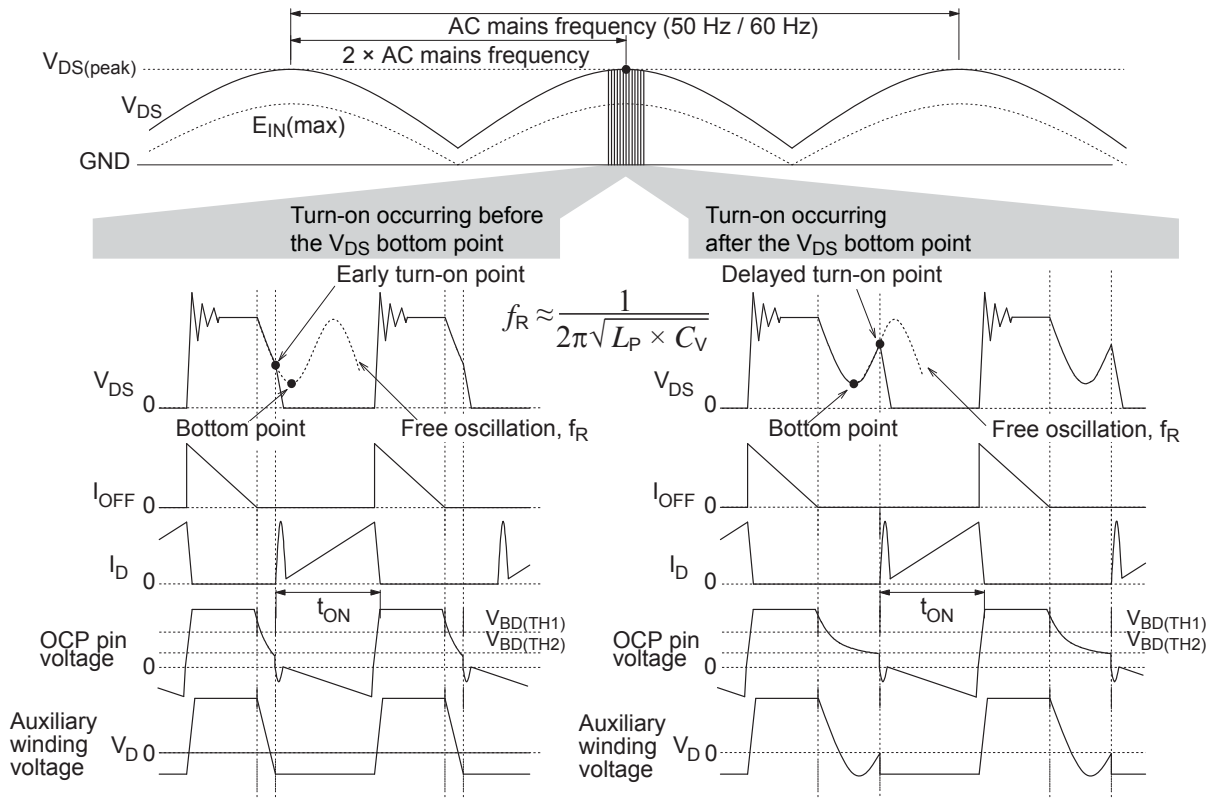

Figure 17. Effects of failure to turn on precisely at the  $V_{DS}$  bottom point: (left) turn-on before a bottom point, and (right) turn-on after a bottom point
- If the turn-on point precedes the bottom of the  $V_{DS}$  signal (see figure 17, left panel), it causes higher switching losses. In that situation, after confirming the initial turn-on point, delay the turn-on point by increasing the C7 value gradually, so that the turn-on will match the bottom point of  $V_{DS}$ .
- In the converse situation, if the turn-on point lags behind the  $V_{DS}$  bottom point (see figure 17, right panel), it causes higher switching losses also. After confirming the initial turn-on point, advance the turn-on point by decreasing the C7 value gradually, so that the turn-on will match the bottom point of  $V_{DS}$ .